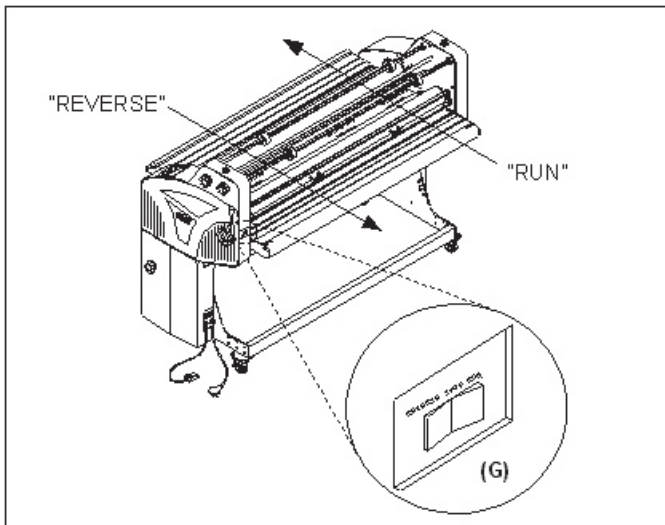

Fig 11
G. REAR CONTROL SWITCH: (Figure 11) This switch enables the operator to run jobs from the rear operating position of the laminator when rear controls are enabled.